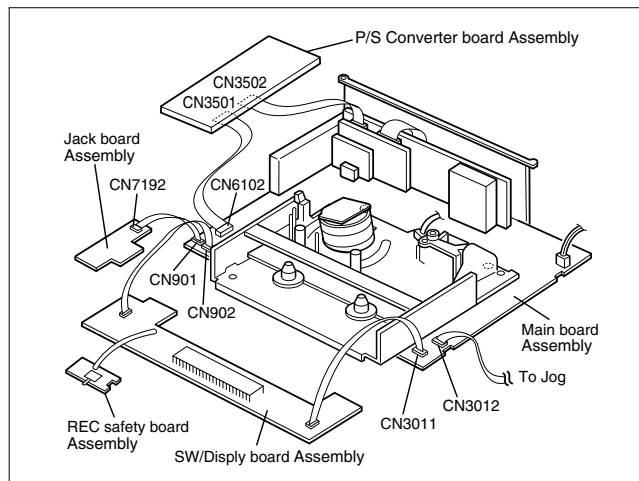

Fig. 1-4-3
- (9) Place the SW/Display board assembly, REC safety board assembly, Jack board assembly and P/S Converter board assembly on the front side and left side of the Mechanism and Main board assemblies which was removed at the step (7), then connect the flat wires into CN3011, CN901 and CN902 of the Main board assembly, CN3501 and CN3502 of the P/S Converter board assembly. (Refer to Fig. 1-4-3.)
1.4.3 Cassette loading and ejection methods in the "SERVICE POSITION"(See Fig. 1-4-3).
- (1) Insert a cassette halfway in the Cassette holder assembly.
- (2) Set the switch on the REC safety board assembly to ON (by pressing the switch).
- (3) As soon as the cassette starts to be loaded, set the switch on the REC safety board assembly to OFF (by releasing the switch).
- (4) Now the desired operation (recording, playback, fast forward, rewind, etc.) is possible in this status (the status shown in Fig.1-4-3).
- When performing diagnostics of the tape playback or the recording condition in the "SERVICE POSITION", enter the desired mode before turning the set upside down, and do not change the mode when performing diagnostics while the set is placed upside down. If you want to switch the mode, turn the set to the normal position (the status shown in Fig.1-4-3).
- (5) The switch on the REC safety board assembly does not have to be operated when ejecting a tape. But be sure to turn the set to the normal position before ejecting the tape.